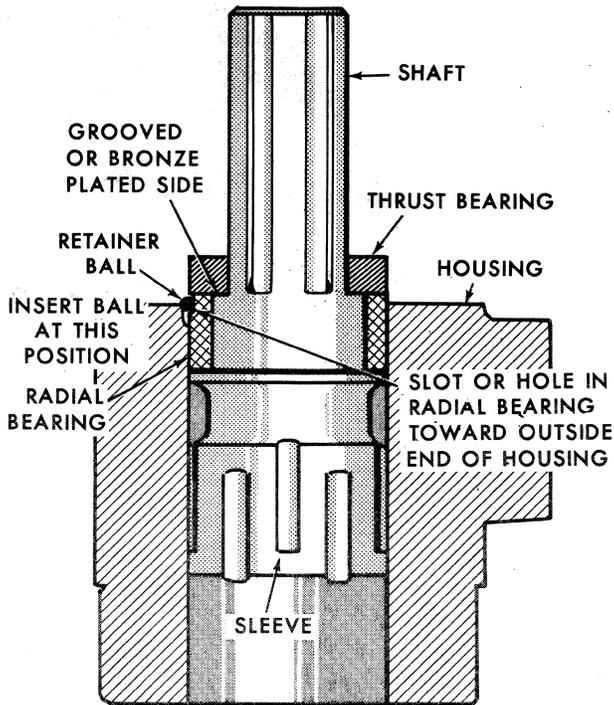

Figure 14
2. Lubricate the shaft assembly and carefully place it in the housing. Replace radial bearing and retainer ball as shown in Figure 14. Install the thrust bearing against the shoulder of the shaft.